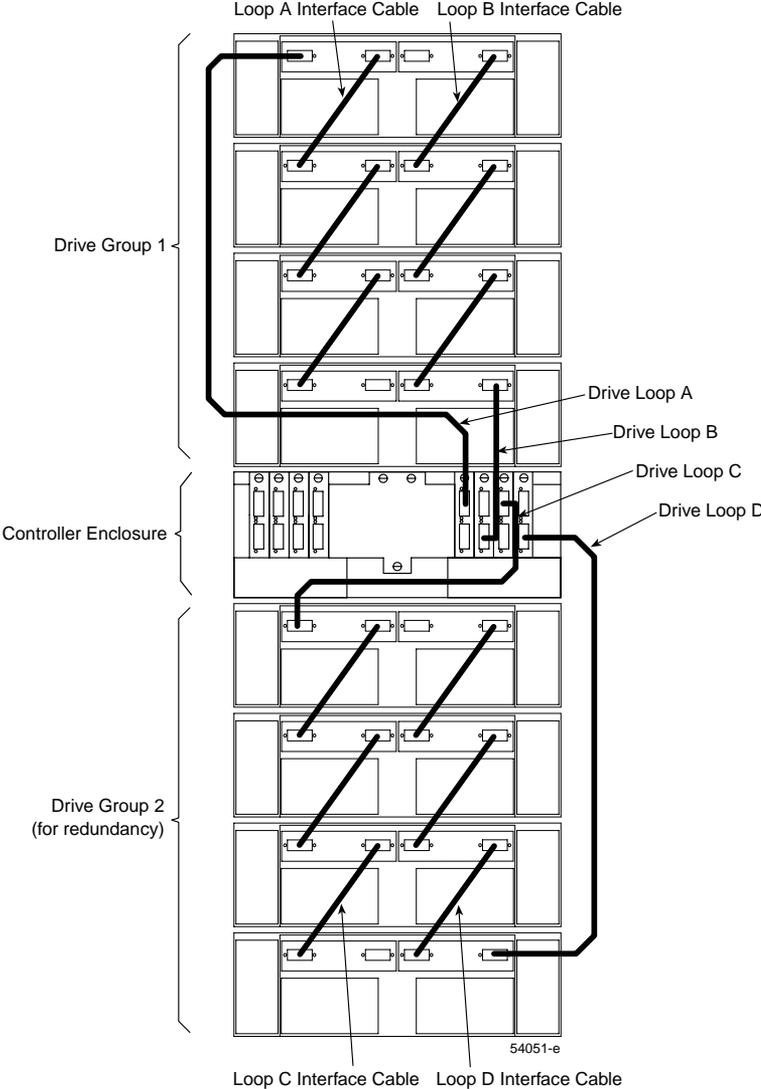

Figure 8-5 Two Drive Groups, Each With Redundant Drive Loops
4. Connect drive Loop C to the controller enclosure (Figure 8-5).
5. Connect drive Loop D to the controller enclosure (Figure 8-5).